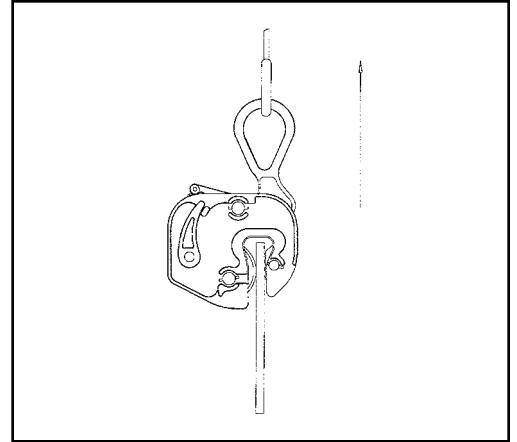

Figure 1
**VERTICAL LIFT:** The lifting of a vertical plate or member in which the lifting force exerted by the rigging is evenly distributed and is directly above and in line with the clamp's lifting shackle. This is illustrated in (Fig. 1).